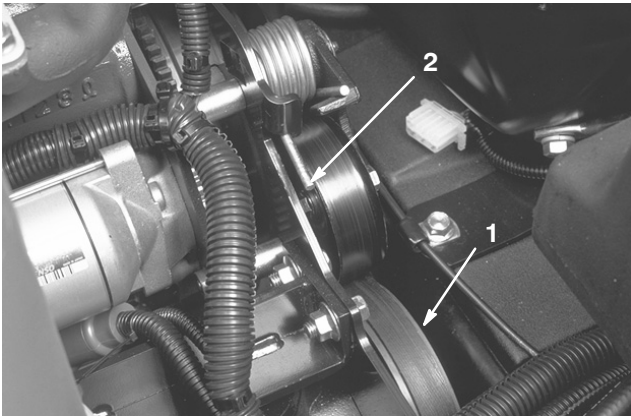

Figure 46
2. Push down and forward on the spring end (Fig. 46) to unhook it from the bracket and release tension on the spring.